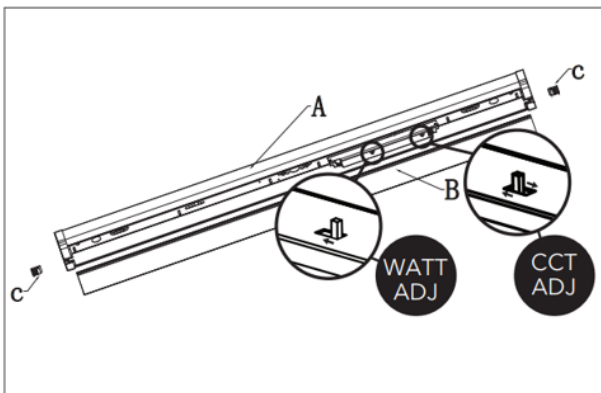

Figure 12
- Remove diffuser, slide small lid (PART C) out of the end cap of lamp base (PART A), then take out the diffuser (PART B). Please see Figure 12 for reference
- CCT options are the following: 3500/4000/5000K CCT. The fixture is pre-set to 4000K. The wattage adjustment are 3 options (pre-set to highest wattage). Please see Figure 12 for reference.